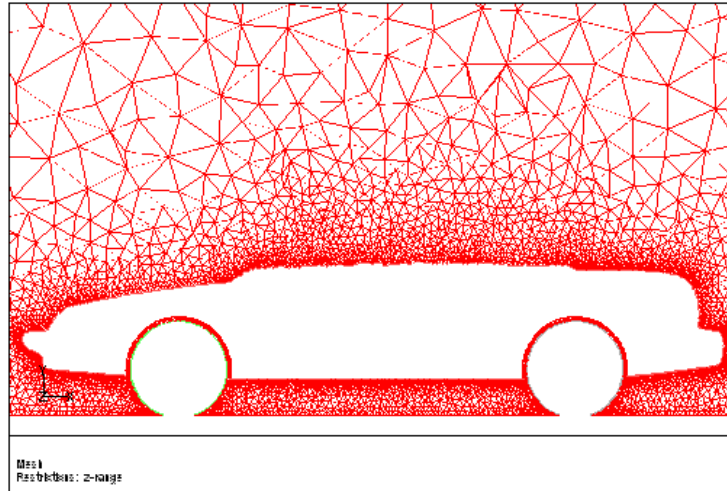

Figure 2.9: Slide of Cells at  $Z = 0.38$
- (b) Display the mesh on a slide through the wheels ( $z = 0.38$ ). See Figure 2.9.